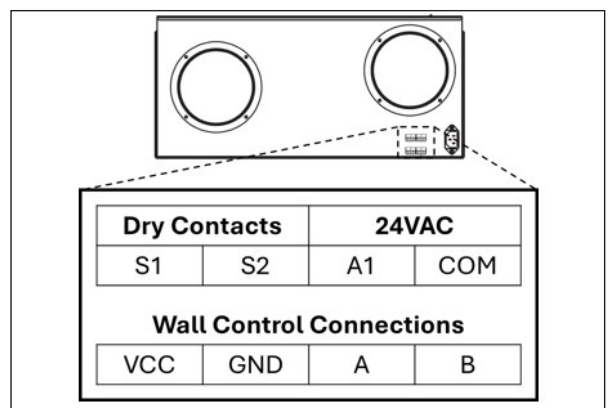

Figure 5: Ventilator Wiring Connections
11. Connect the wall control wires to the corresponding connections on the ventilator unit. See Figure 5.